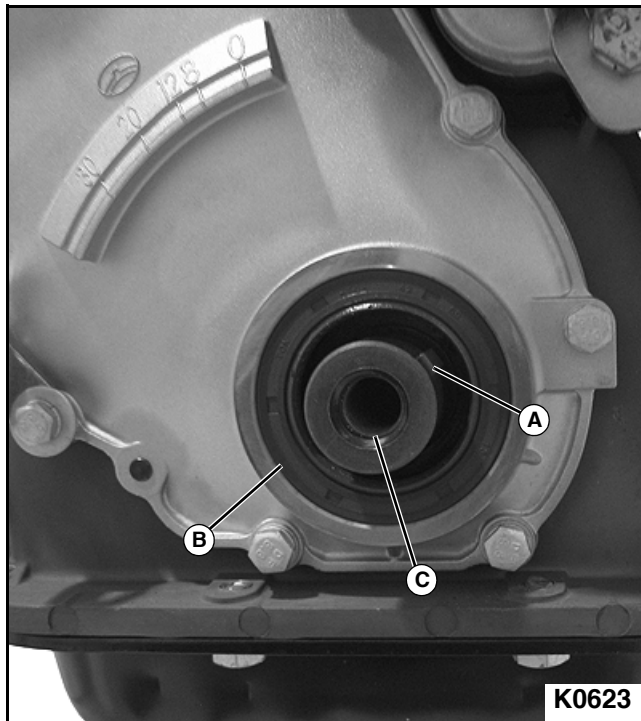

Figure 3-84
1. Inspect crankshaft key (A) for wear or damage. If crankshaft key is worn or damaged, replace crankshaft key. **See Figure 3-84.**
2. Inspect front crankshaft seal (B). If seal lip is damaged or worn, replace front crankshaft seal. See "Remove and Install Front Crankshaft Seal" on page 67.
3. Inspect crankshaft threads (C). If inspection reveals threads are damaged, repair threads.